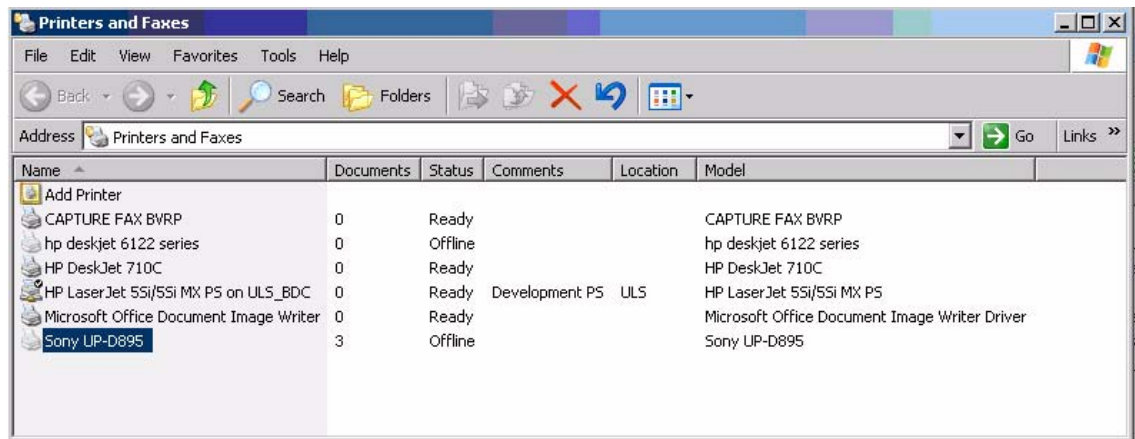

Figure 3-44 Printers and Faxes Window
- 2) Right-click on the destination virtual printer (see Figure 3-44) and select **Open**.